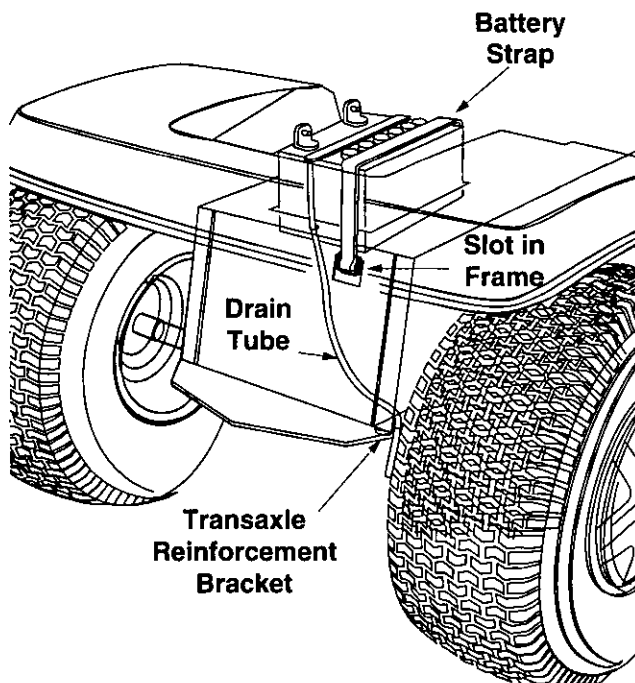

Figure 10
6. Secure battery by hooking battery strap into slot in rear frame, under the fender. See Figure 10.
7. Insert the drain tube through the hole in the transaxle reinforcement bracket located on the **right** side of the unit. See Figure 10. Be certain drain tube is routed away from the wheel rim.